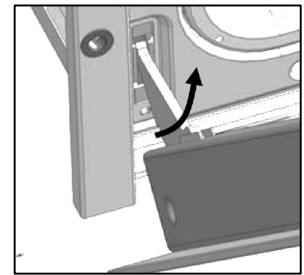

Figure 10
- Gently close the door until left and right hinge levers A are hooked to part B of the door (Figure 10)